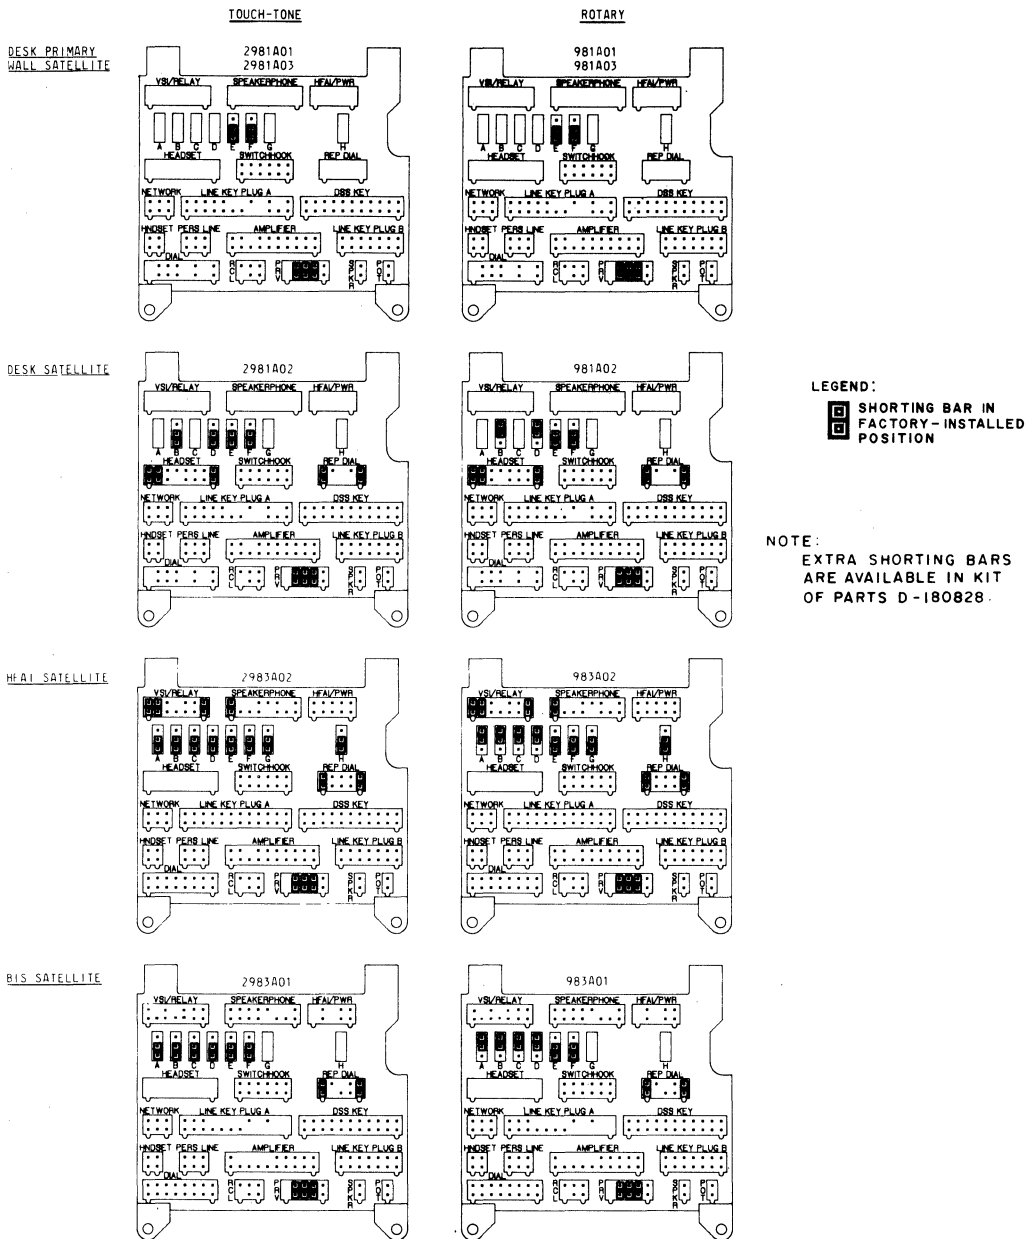

Fig. 37—Interconnect Fields Showing Factory Positions of Shorting Bars
- (d) Remove the three factory-installed shorting bars from the PRV position in the interconnection field (Fig. 37).
***If the privacy feature is ever removed from a set, be sure to restore the shorting bars removed in (d) to their original factory positions (Fig. 37). If the privacy feature is removed from all sets in the system, remove the PRIV RLS designation tabs from all sets.***
- (c) At switches E and F on the interconnect field (Fig. 37), move the shorting bar from the lower position to the upper position.